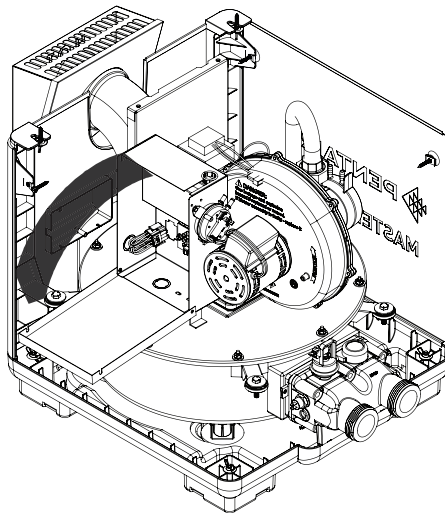

Figure 28.
3. Open control box cover (see Figure 28).